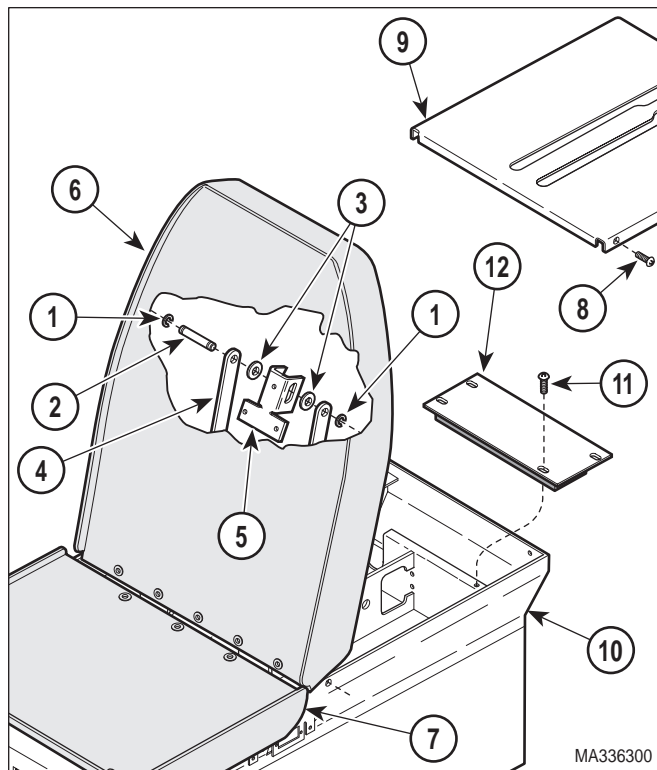
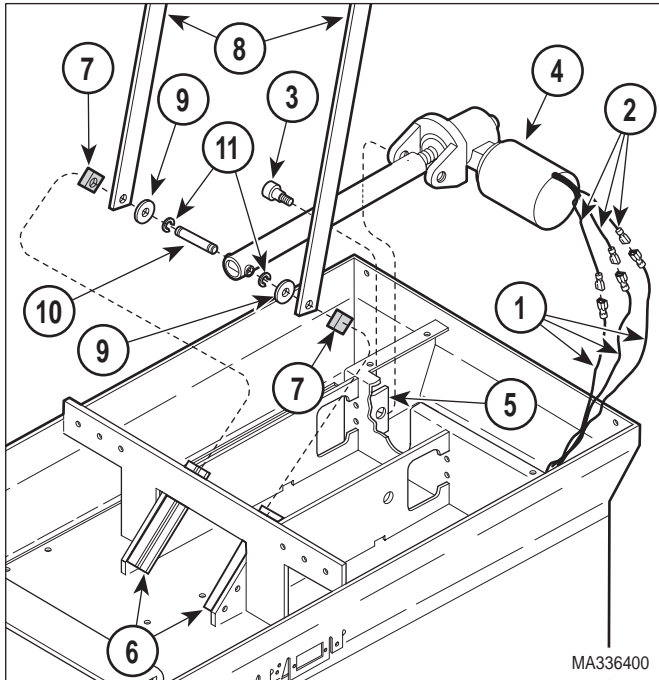

Figure 4-10. Back Actuator Access
Figure 4-11. Back Actuator Removal / Installation
- (3) While supporting back section, remove two e-rings (1, Figure 4-10), clevis pin (2), two bearing washers (3), and link bars (4) from back pivot bracket (5).
- (4) Fold the back section (6) over onto the seat section (7).
- (5) Remove four screws (8) and back cover (9) from upper wrap weldment (10).
- (6) Remove four screws (11) and motor cover (12) from upper wrap weldment (10).
- (7) Tag and disconnect three wires (1, Figure 4-11) from three actuator wires (2).
- (8) Remove two shoulder bolts (3) securing base of back actuator (4) to isolation brackets (5).
- (9) Remove back actuator (4) from table by sliding shaft of back actuator out of slide extrusions (6).
- (10) Remove one slide bearing (7), link bar (8), and bearing washer (9) from each end of clevis pin (10).
- (11) Remove two e-rings (11) and clevis pin (10) from shaft of back actuator (4).
- (1) Install clevis pin (10, Figure 4-11) on shaft of back actuator (4) and secure with two e-rings (11).
- (2) Install one bearing washer (9), link bar (8), and slide bearing (7) on each end of clevis pin (10).
- (3) Insert slide bearings (7) of back actuator shaft into slide extrusions (6).
- (4) Coat threads of two shoulder bolts (3) with removable threadlocking adhesive (Loctite 262).
- (5) Secure base of back actuator (4) to isolation brackets (5) and secure with two shoulder bolts (3).
- (6) Connect three actuator wires (2) to three wires (1).
- (7) Install motor cover (12, Figure 4-10) on upper wrap weldment (10) and secure with four screws (11).
- (8) Install back cover (9) on upper wrap weldment (10) and secure with four screws (8).
- (9) Lower back section (6) down; then install two link bars (4) on back pivot bracket (5) and secure with two bearing washers (3), clevis pin (2), and two e-rings (1).
- (10) Plug table power cord into wall outlet.